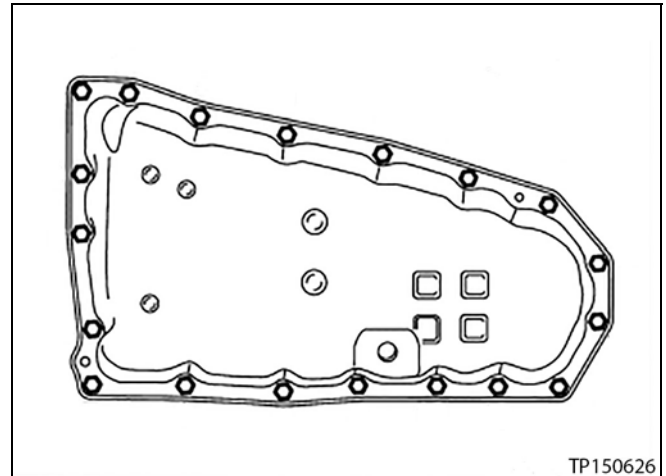

Figure 26
1. Remove the 19 oil pan bolts, and then remove the CVT oil pan and gasket (see Figure 26).